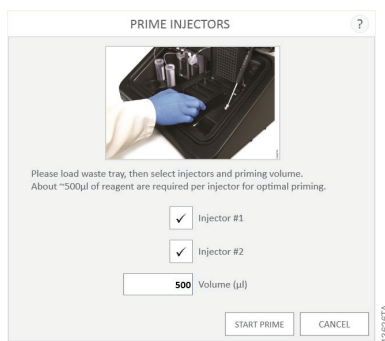

Figure 90. Injector prime function.
7. Tap the **Start Prime** button (Figure 90).